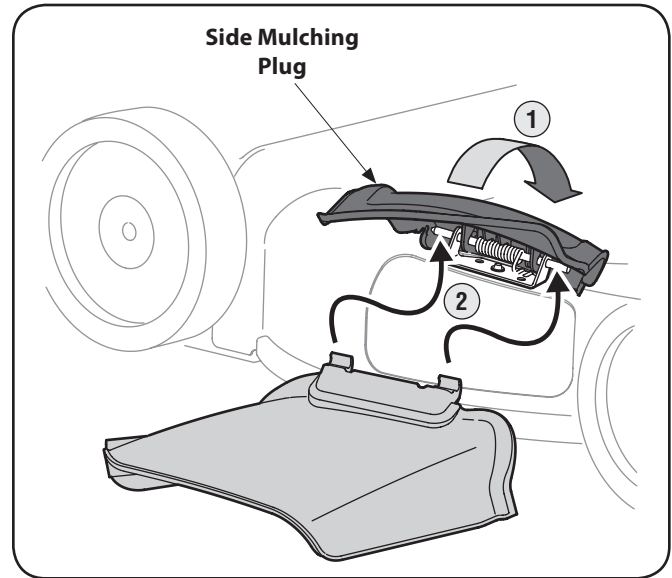

Figure 3-9
- 1. On the side of the mower, lift the side mulching plug. See Figure 3-9.